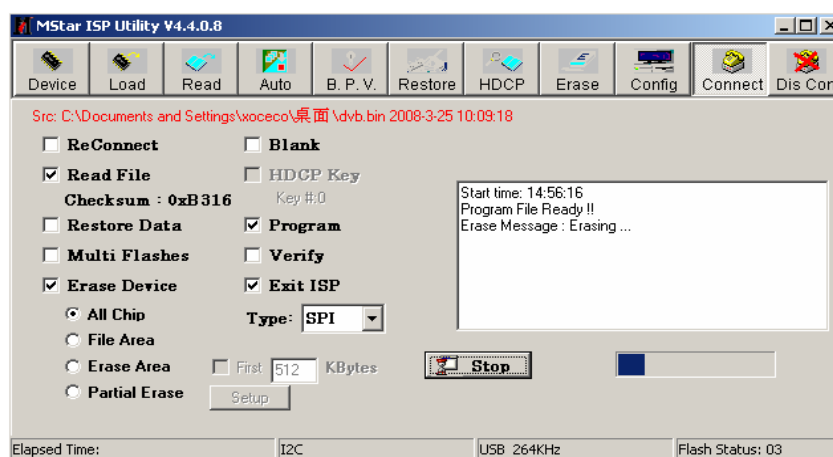

Fig. 5 Options
- 5) Press “Auto”, tick off “All chip”, “program” and other necessary options; please refer to Fig. 5;